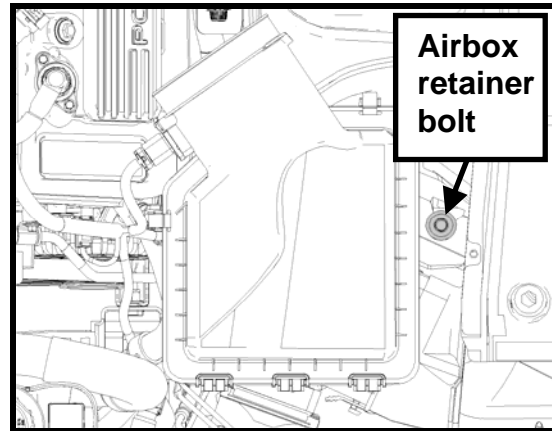

Fig. 5
**STEP 7:** Remove the airbox retainer bolt and assembly from the vehicle (See Fig. 5).